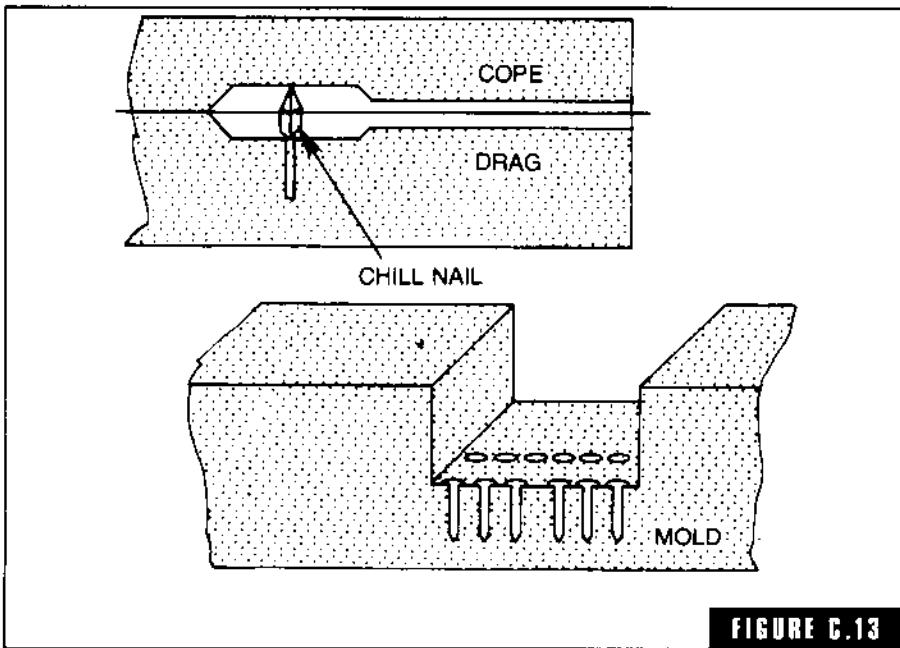

FIGURE C.13
**chill nails** Large-headed nails used as internal and external chills (Fig. C-13). Horseshoe nails are widely used due to the head mass. The